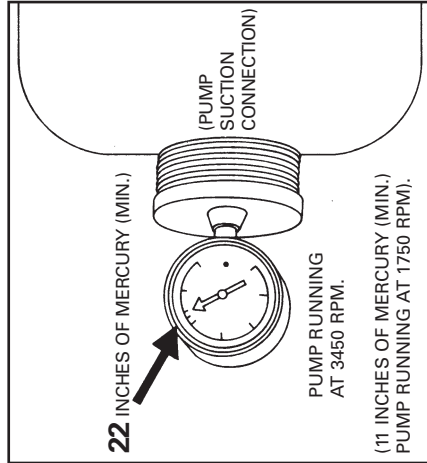

FIGURE 4
2. Shut off power source to pump. Shut off valves to and from pump. While observing all safety precautions for the liquid being pumped, disconnect suction and discharge lines and drain the pump completely. Fill the pump with water. Install a vacuum gauge in the suction port (see figure 4). Turn on power source. Vacuum should exceed 22" of mercury when pump shaft is rotating at 3450 RPM and should equal or exceed 11" of mercury these values, check the following: